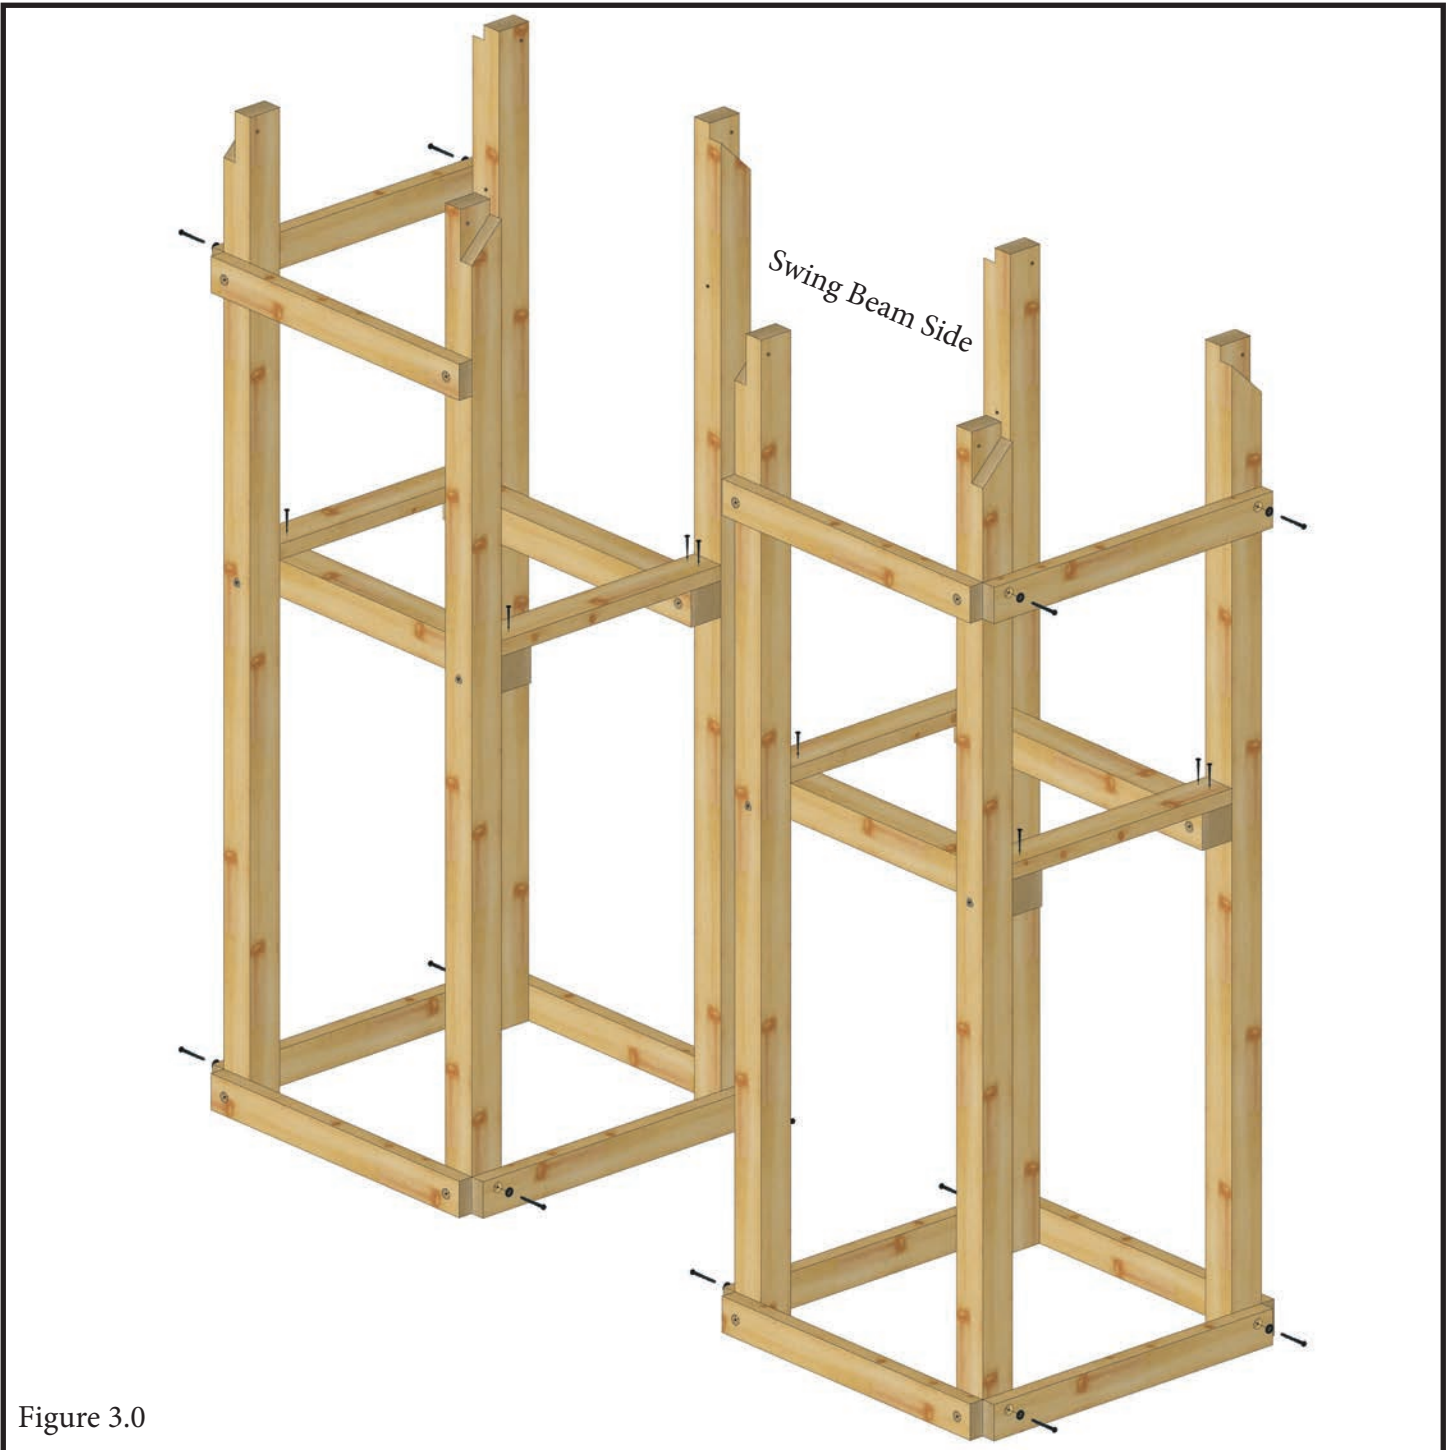

Figure 3.0
3.1 Pre-drill and Fasten Deck Boards 26" (4) to Deck Supports with #8x2-1/2 Screws (4 each) as shown in Figure 3.0.